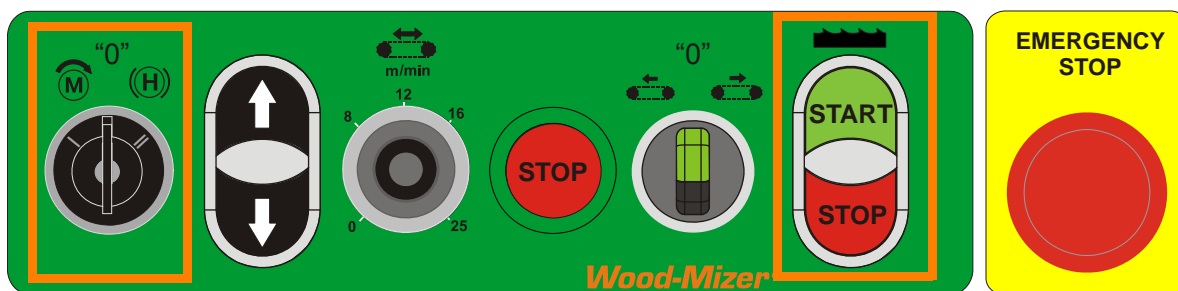

FIG. 2-9
**See Figure 2-9.** Start the blade motor. To do this, turn the key switch to the  position and then push the Blade Start button on the control panel (see the figure below). The motor should start and the blade should start spinning.